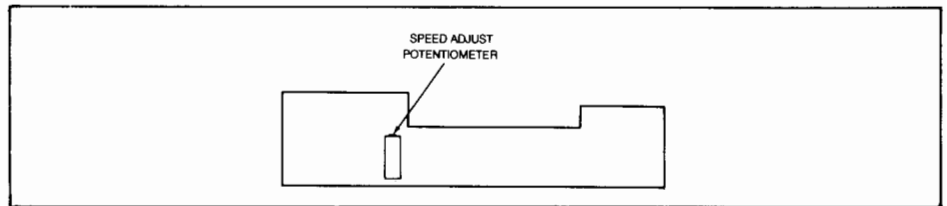

Figure 5-12. Location of Speed Adjust Potentiometer on Motor Control PCA.
13. Check the frequency for 200ms and if necessary, adjust the potentiometer on the motor control PCA (figure 5-12).